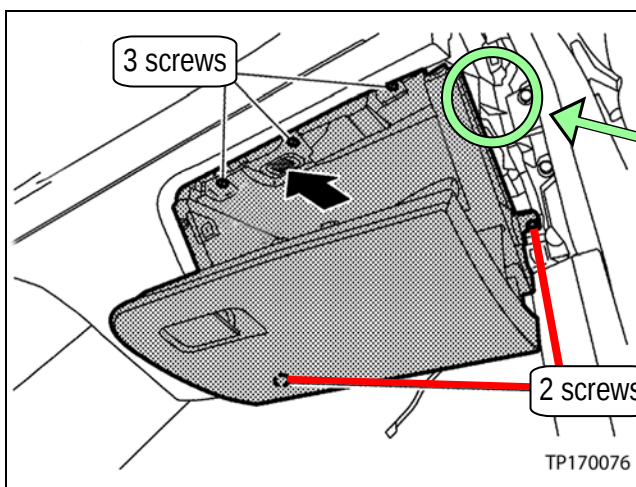

Figure 46
31. Open the glove box, and then remove the three (3) screws. See Figure 46.
32. Remove the two lower screws, and then lower the glove box and passenger knee air bag module as an assembly (see Figure 46).